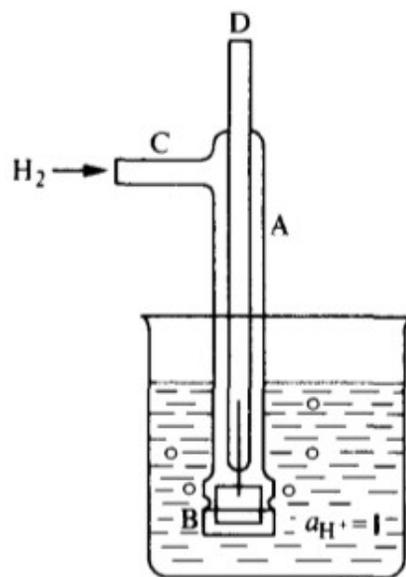

Figure 2: Standard Hydrogen Electrode
- As given in figure 2, this consists of a piece of platinum foil, coated electrolytically with platinum black, and immersed in a solution of hydrochloric acid containing hydrogen ions at unit activity. (This corresponds to 1.18 M hydrochloric acid at 25°C.)